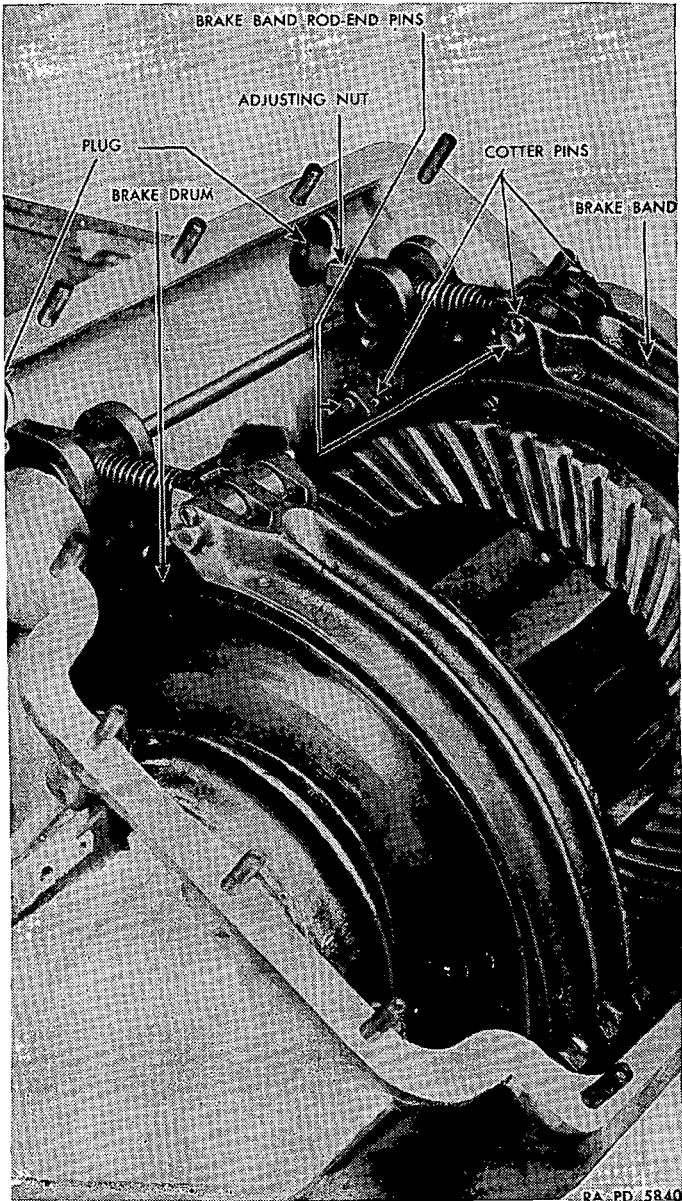

FIGURE 59.—Steering brake bands.
b. Steering brakes.—(1) *Adjustment* (fig. 59).—(a) Remove pipe plugs (figs. 6 and 17).
(2) *Replacement of brake bands* (fig. 59).—(a) *Removal.*